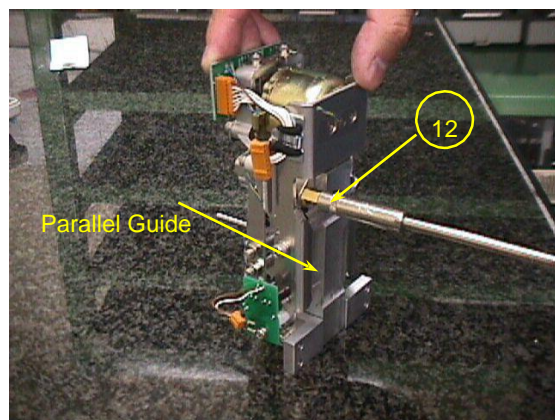

Fig.14
Warning: Never hold the Unit assy (1) in the parallel guide or/and movable column when lifting it up. Always hold it in the base part. (Refer to Fig.14.)
- Fit the new Unit assy (1) by following the steps 2) to 4) outlined above in reverse order.
Pt-Ni band protector that is attached to the replacement Unit assy (Fig.14) does not have to be removed.